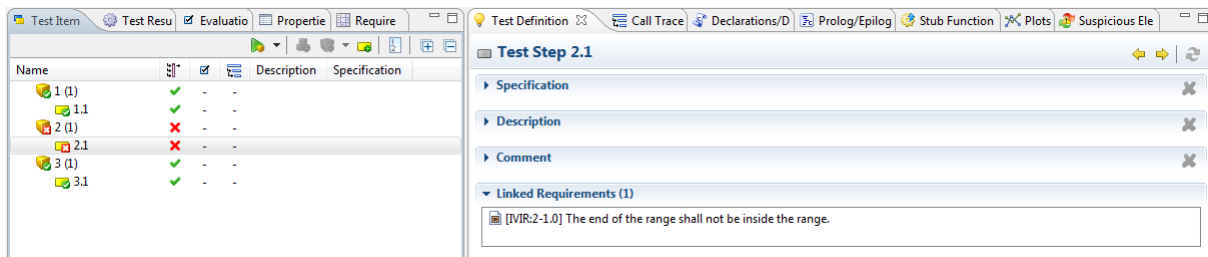

Figure 6.216: Test Definition view within TDE with linked requirement
- Select a test case within the Test Items view (see figure 6.216).